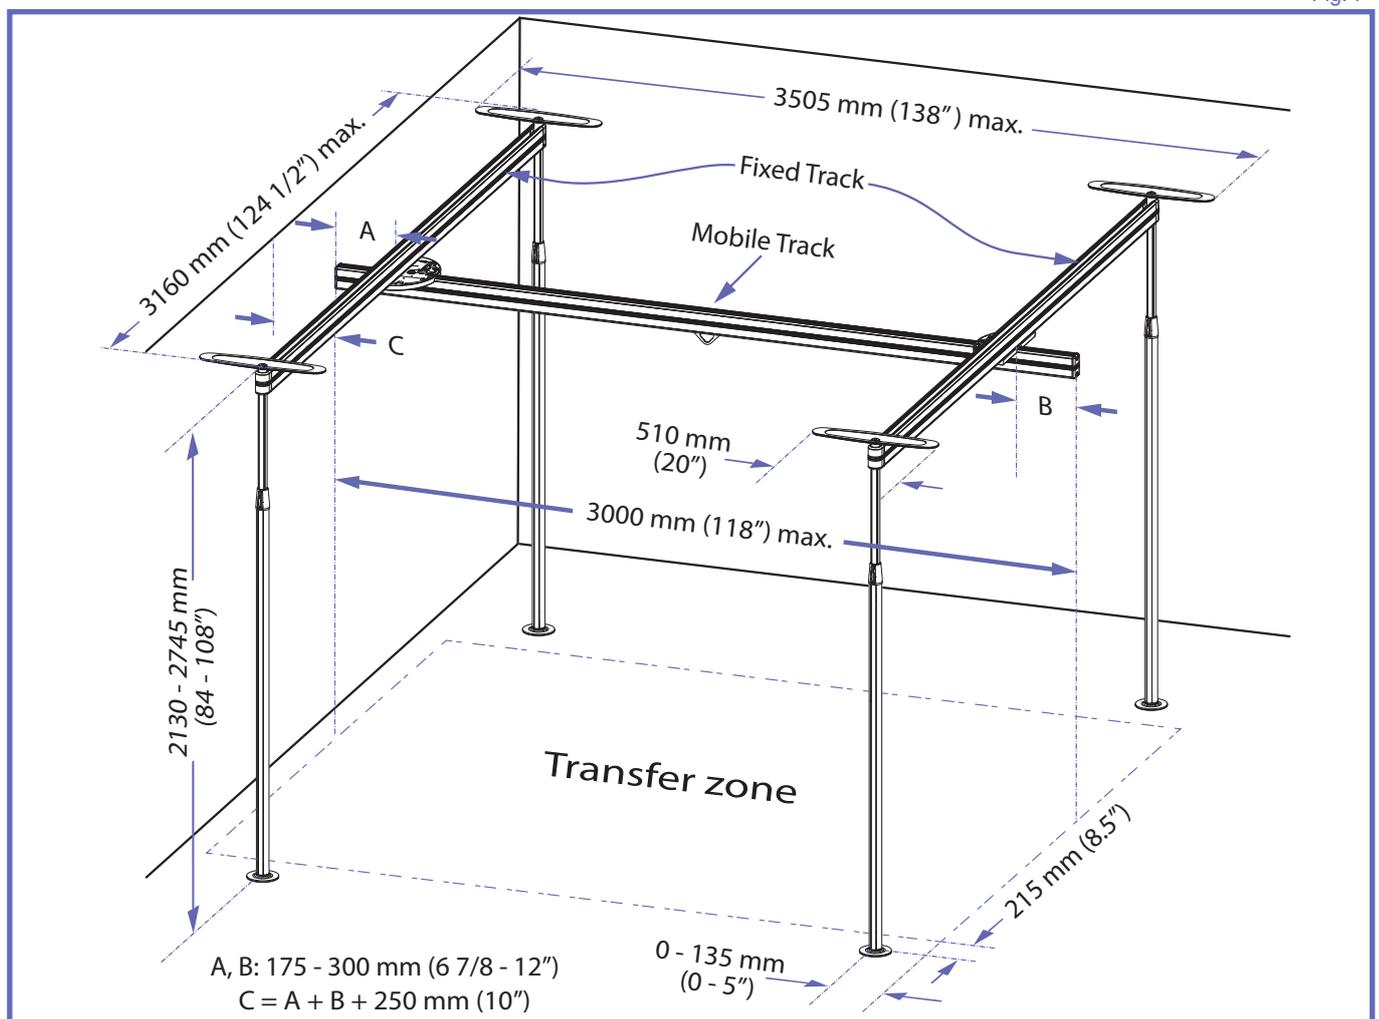

Fig. 5
- 3) Referring to Fig.5, determine the location for the four posts considering the following:
- 19) Review the "Room Assessment" section on page 7 to make sure the mobile track complies to all requirements as shown on "Fig.5"